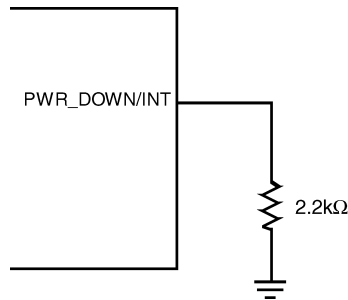
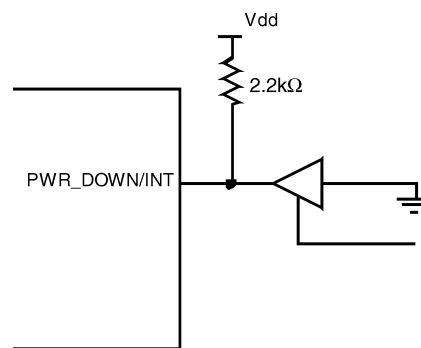
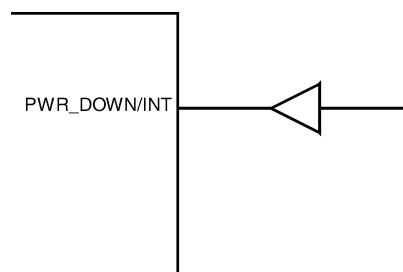

Figure 1. Initialization Via Pull Down Resistor
Figure 2. Initialization Via Tri-state Driver
Figure 3. Initialization Via Driver
- Using an external pull-down resistor (See Figure 1).
- Directly driving the PWRDOWN/INT pin to a logic low level (See Figure 2 or Figure 3).
Note that using an external resistor (Figure 1) or using a logic driver (Figure 3) prevents the PWR\_DOWN/INT pin from normal interrupt operation. When configured as an interrupt with one of these connections, the pin would be pulled down or driven low, effectively signaling an interrupt.
Using a tri-state driver and a pull up resistor (Figure 2), interrupt capability can be maintained. However, during the time that the device is held in a power down state via the tri-state driver, the system would have to ignore the interrupt signal from the device.